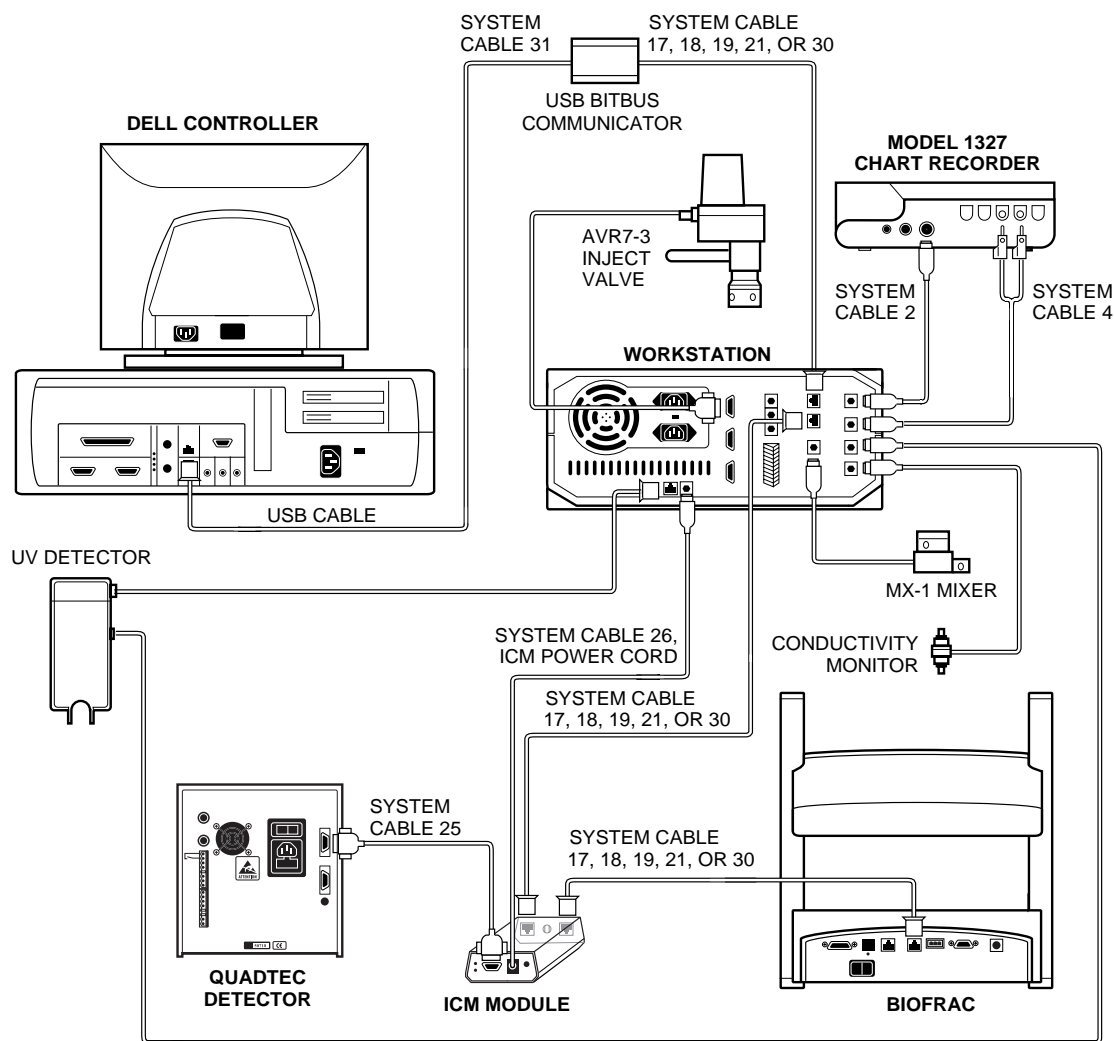

Figure 3-4. System Cable Connections (without Maximizer)
3. Connect the mixer signal cable (mini-DIN connector) to the connector marked Mixer on the rear of the Maximizer, if available. Otherwise, connect to the Workstation. Refer to Figures 3-4 and 3-5.
- Connect the power cable (square connector) from the UV detector lamp into the connector marked **UV Lamp** on the rear of the Workstation. Refer to Figures 3-4 and 3-5.
- Connect the UV detector signal cable (mini-DIN connector) to the connector marked **UV Optics** on the rear of the Workstation. Refer to Figures 3-4 and 3-5.
- Connect the Conductivity monitor's combined power and signal cable (mini-DIN connector) to the connector marked **Cond. Flow cell** on the rear of the Maximizer, if available. Otherwise, connect it to the Workstation. Refer to Figures 3-4 and 3-5.
- Instrument bus connector: System Cable 17 connects to the Workstation and the BioFrac fraction collector (if used). (Refer to Figures 3-4 and 3-5.)